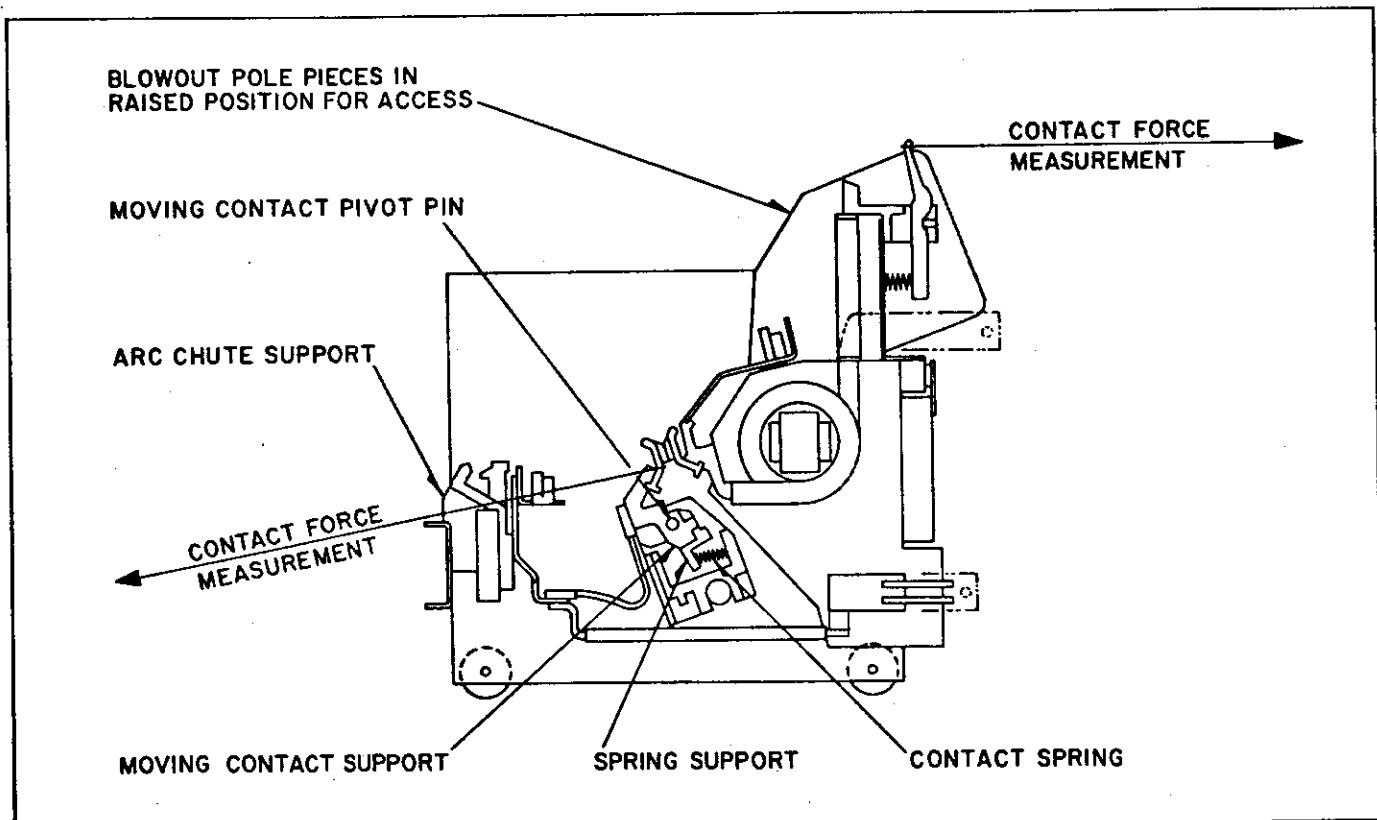

Fig. 9 Contact Force Measurement (Dwg. 3512C82)
3. Check initial contact forces. Contact forces measured at the heel of contact inlays as shown in Figure 9 are as follows:
To measure the initial force the armature should be blocked within .06"-.12" of the contact touch point. Force is then conveniently measured by looping a piece of string around the heel of the moving contact face and pulling in a direction perpendicular to the contact face as indicated in Figure 9. A small piece of cardboard or wood